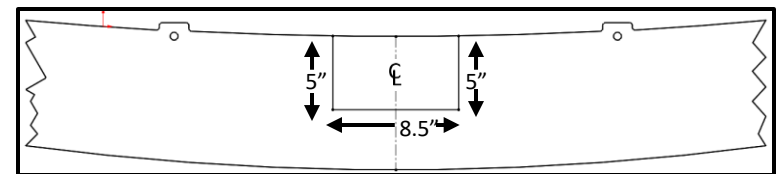

Figure 6
7. On 2013 and older models fascia trim required. Obtain vehicle owners approval before cutting. Trim fascia using utility knife. Locate bottom center of the fascia and trim as shown in **Figure 6**.
8. Reattach the back-up sensor (not shown) if present using item 2 and the bottom hole on the hitch bracket. Reattach the electrical on the passenger side. Reattach fascia using rivets ① and insure that all fascia tabs are correctly aligned. Reattach the tail lights and reflectors.